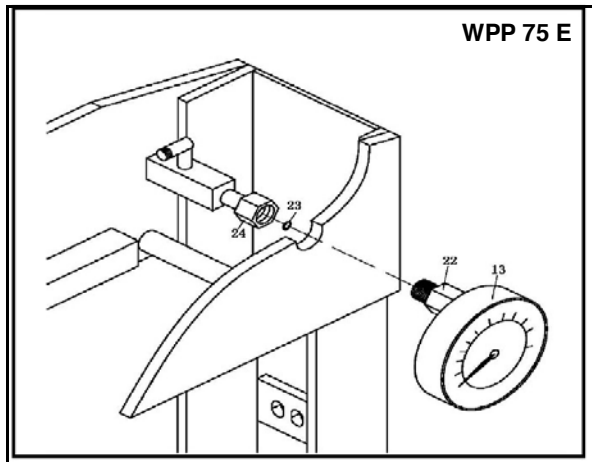
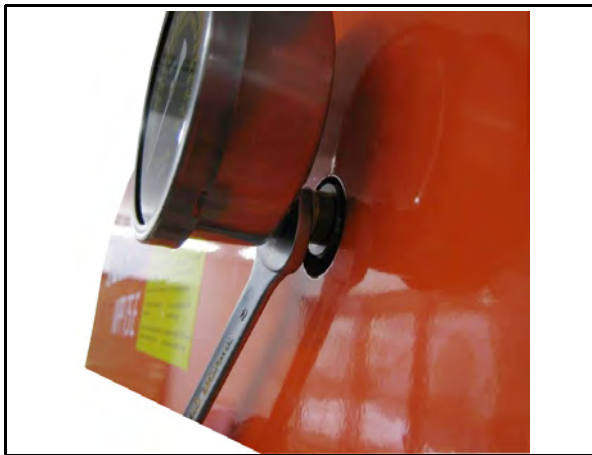

Fig. 9: Installing the pressure gauge
Fig. 10: Mount the pressure gauge
Step 2: Tighten pressure gauge and sealing ring on the distributor (see Fig. 9 and Fig. 10). The connection must be tight so that no oil can leak.